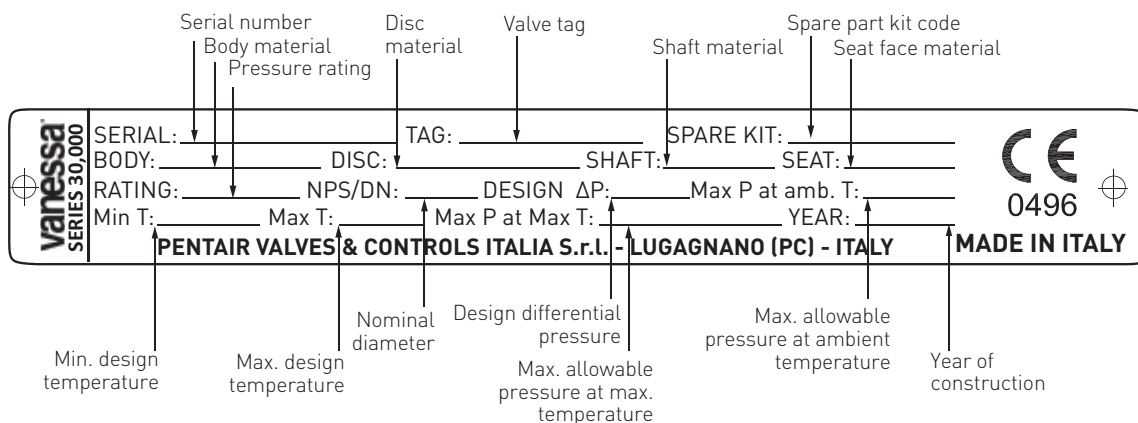

FIG. 1
- e. Ensure that the materials of construction listed on the valve nameplate (Fig. 1) are appropriate for the service intended and conform to the contractual specifications/requirements.
- f. Ensure that the valve pressure/temperature limits shown on the valve nameplate (Fig. 1) are suitable for the process conditions. If in doubt contact factory.
The valve trim is designed to withstand and to seal against the design differential pressure marked on the valve nameplate (Fig. 1). The valve trim shall not be used as sole protective mean against the hazard caused by the closed valve upstream pressure.